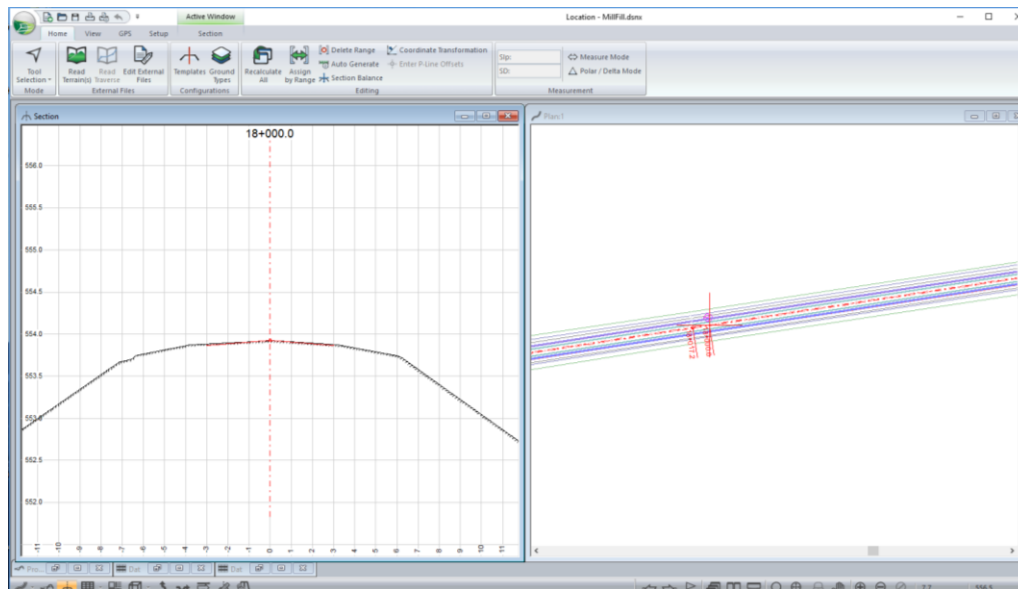

Figure 1 – MillFill.DSNX
1. Open the Location module. Open *MillFill.DSNX* (included with this example). The screen should now display a cross section and a profile view as shown in Figure 1.